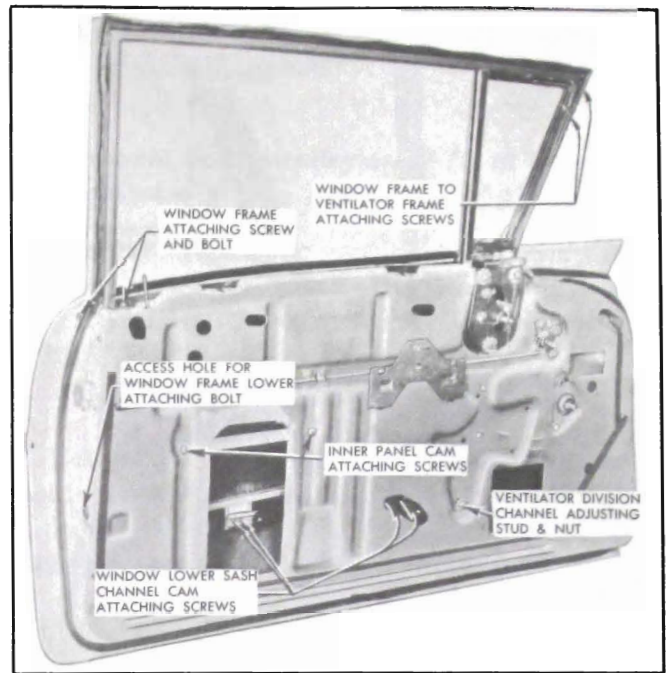

Figure 13-38—Front Door Window—Model 41-48
1. To correct a condition where the glass is "cocked" in the glass run channels, loosen the inner panel cam rear attaching screw, Figure 13-38; adjust rear of cam up or down as required and retighten screw.
3. Remove window frame lower attaching bolt at location shown in Figure 13-38.
4. At upper front of ventilator remove two (2) screws, indicated in Figure 13-38 securing